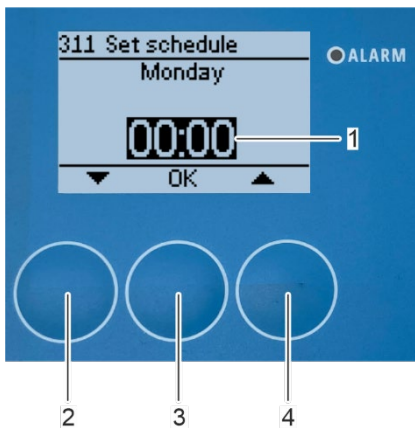

Fig. 156: Select start time for automatic cleaning
⇒ The selection of the start time appears on the display (Fig. 156/1).
- Select the start time for automatic cleaning with the arrow keys *[up]* (Fig. 156/4) and *[down]* (Fig. 156/2).
- Confirm the selection with *[OK]* (Fig. 156/3).